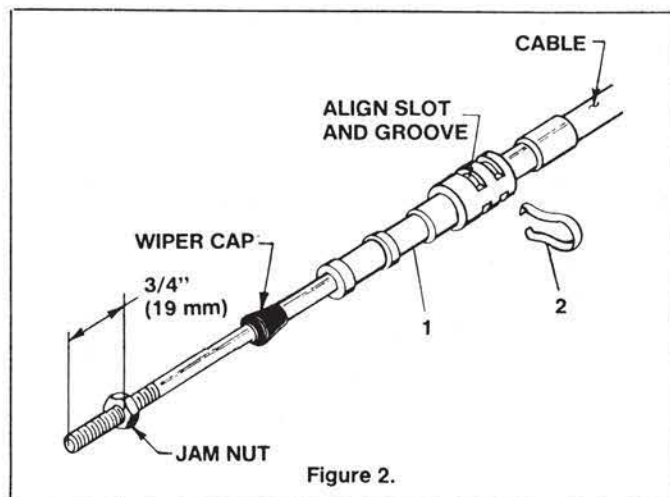
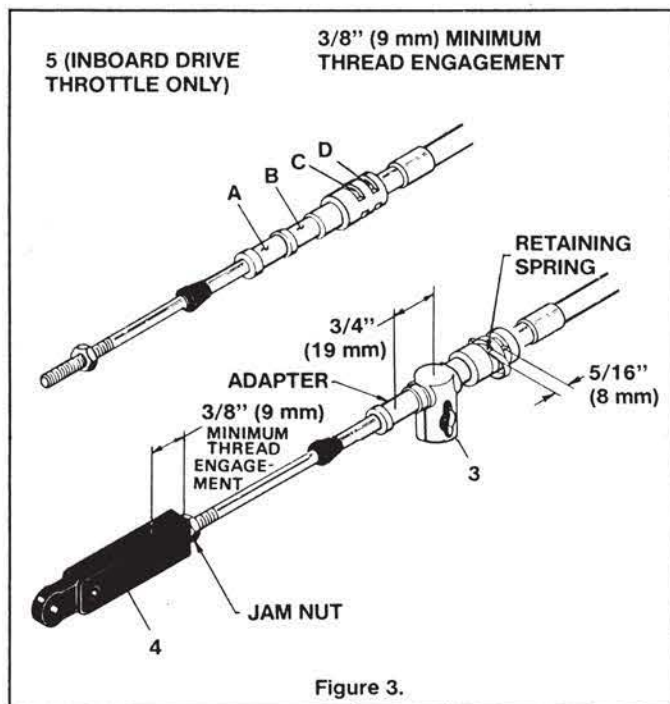

Figure 2.
Figure 3.
Step 2. Slide one Adaptor (item 1) over engine end of each cable until slot in Adaptor hub is aligned with groove in cable end fitting, as shown in Figure 2. Insert Retainer Spring (item 2) into slot as shown, and snap into place. Use position "C" for 1978 model year engines, with the exception of Shift for 40 H.P. outboard. In this case, the Spring should be a position "D" (See Figure 3). For other model year engines, consult the manufacturer's manual for cable travel dimensions. Make sure Retainer Spring is fully seated locking Adaptor securely to cable.
Step 3. Place an Anchor Nut (item 3) over undercut "B" as shown in Figure 3. Press firmly on Anchor Nut to snap it into position. Replace wiper cap over swivel tube as shown.
In order to meet the proper dimensional requirements specified by the motor manufacturer for different installations, a number of adjustments are possible (See Figure 3). The Anchor Nut may be placed in one of the two grooves in the Adaptor, providing an adjustment of 3/4" (19 mm).